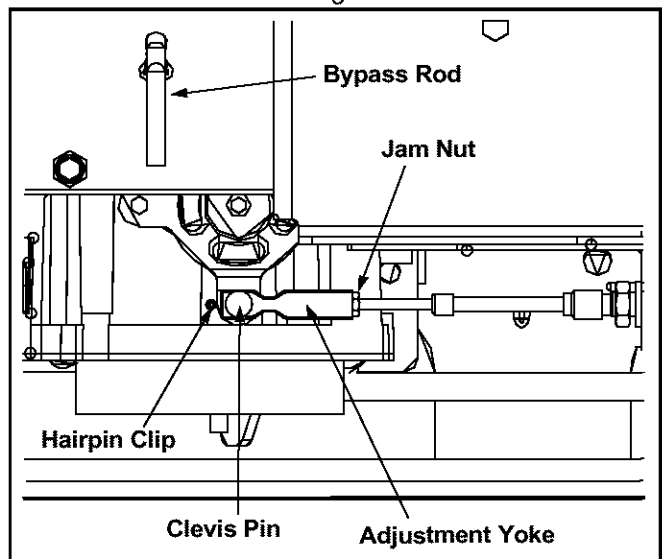

Figure 15
- Locate the adjustment yoke on the left, rear area of the lawn tractor. See Figure 15.
- Loosen the jam nut found to the rear of the yoke, threaded onto the control cable. See Figure 15.
- Remove the hairpin clip securing the yoke to the transmission and slide the clevis pin out of the yoke. See Figure 15. Save both pins as they will be reinstalled in later steps.